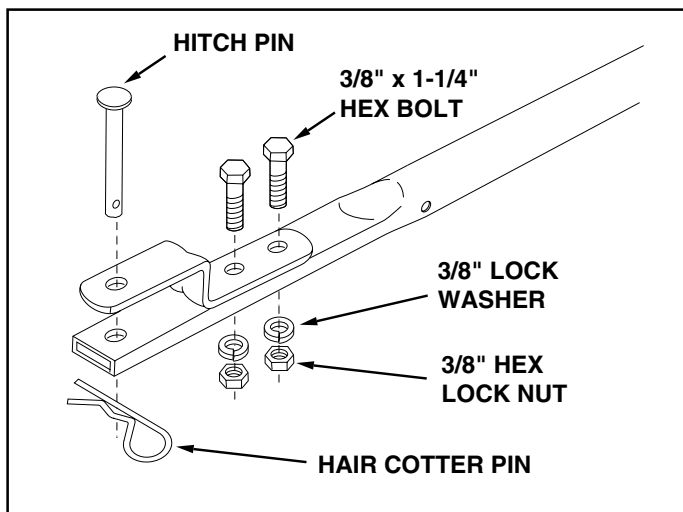

FIGURE 5
12. Assemble the hitch bracket to the top of the hitch tube using two 3/8" x 1-1/4" hex bolts, 3/8" lock washers and 3/8" hex lock nuts. See figure 5.
13. Assemble the hitch pin through the hitch bracket and the hitch tube and secure with the hair cotter pin. See figure 5.